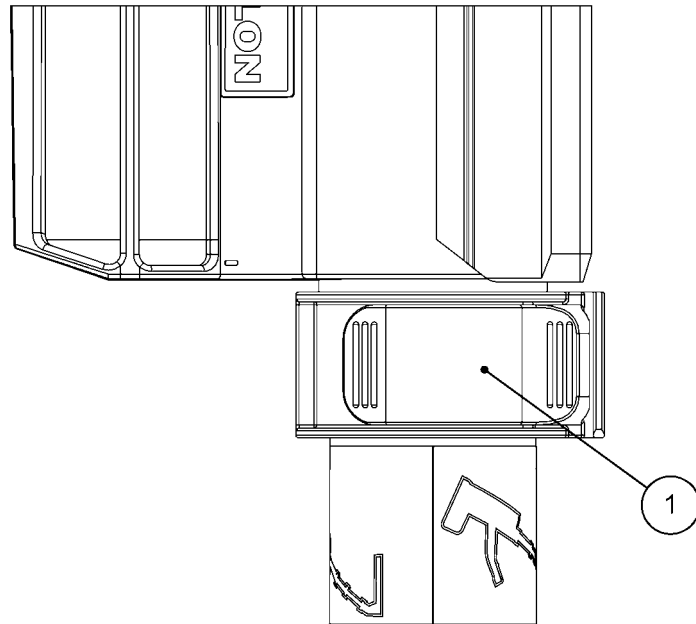

Fig. 5.2.3: Rotating the search coil: (1) Top clamp
3. Open the top clamp, see fig. 5.2.3. Rotate the search coil into the desired position. Close the top clamp.